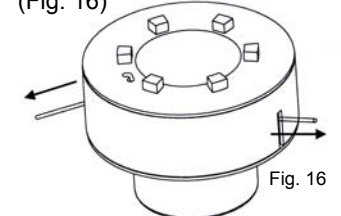

Fig. 16
6. Pull the ends of the cutting line alternately until you have it evenly distributed through the openings. (Fig. 16)